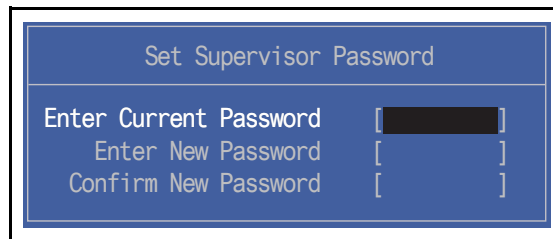

Figure 2-8. Changing a Password: Set Supervisor Password
1. Use the ↑ and ↓ keys to highlight Set Supervisor Password and press **Enter**. The Set Supervisor Password dialog is shown. (Figure 2-8)